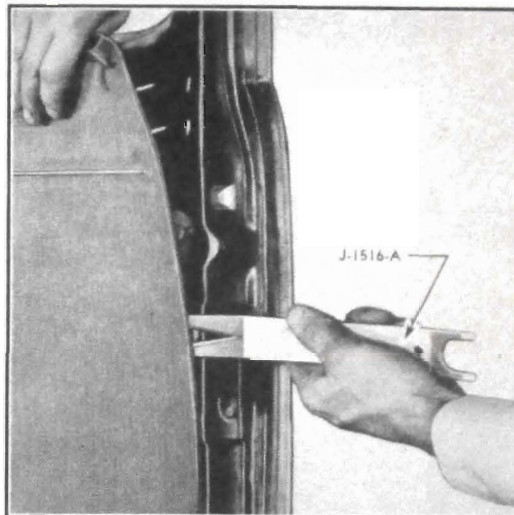

Fig. 1-54. Door Trim Pad Removal
- J-1516-A, Fig. 1-54, then raise it to release